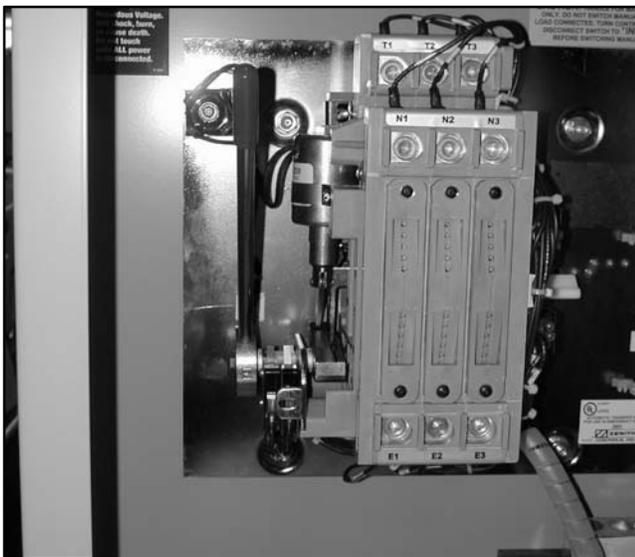

Figure 5-9 Manual Operation Handle Inserted
11. Manually operate the switch several times to ensure that it does not stick. See Figure 5-9.